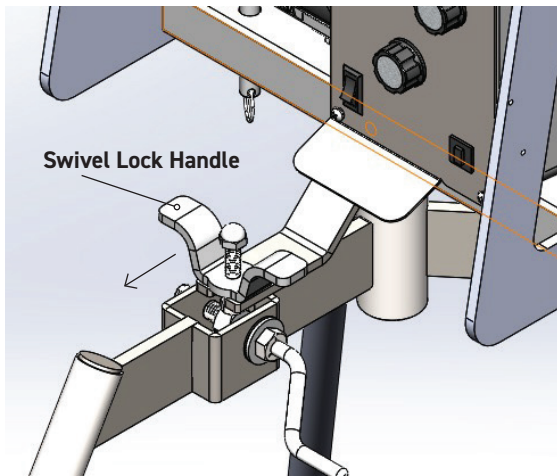

Fig. 1
2. Completely loosen the Horizontal Swivel Lock handle and move it away from the machine (see fig. 1).